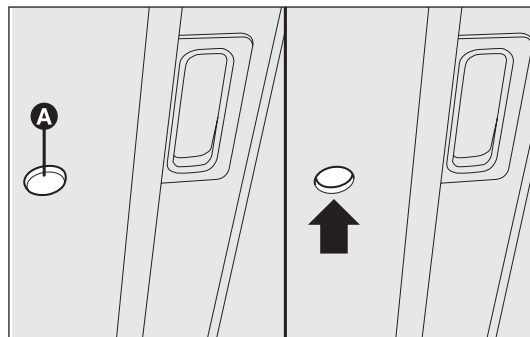

fig. 84
- ☐ insert the key into hole A-fig. 84 and turn it: